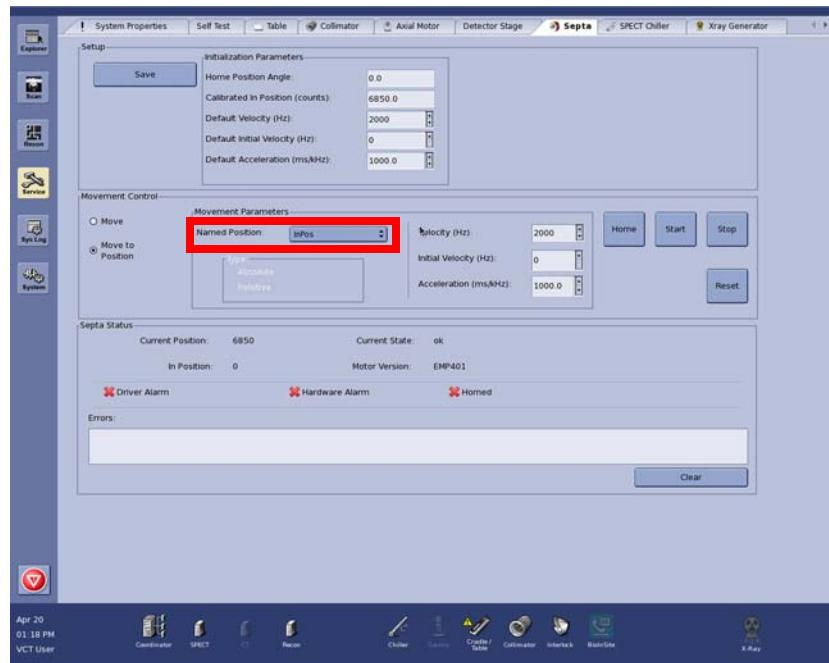

Figure 4-17
8. Access the Septa Service page. Write down the current value in the Calibrated In Position field. With the collimator support open, attempt to move the septa toward the scanning plane by clicking the Move to Position button, selecting InPos from the Named Position drop-down list, entering 10,000 in the Calibrated In Position field and clicking Start (Figure 4-17). The septa must not move.